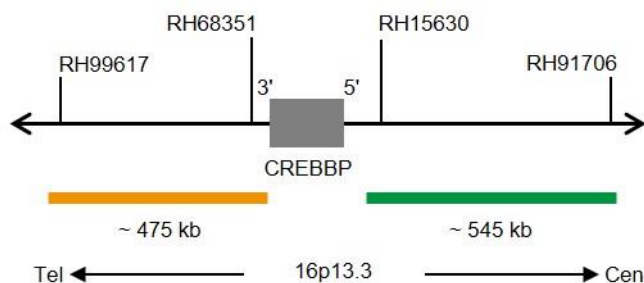

Fig. 1: SPEC CREBBP Probe map (not to scale)
- ZyGreen (excitation 503 nm/emission 528 nm) labeled polynucleotides (~10.0 ng/μl), which target sequences mapping in 16p13.3\* (chr16:3,978,217-4,521,684) proximal to the CREBBP breakpoint region (see Fig. 1).
- ZyOrange (excitation 547 nm/emission 572 nm) labeled polynucleotides (~4.5 ng/μl), which target sequences mapping in 16p13.3\* (chr16:3,287,067-3,762,188) distal to the CREBBP breakpoint region (see Fig. 1).